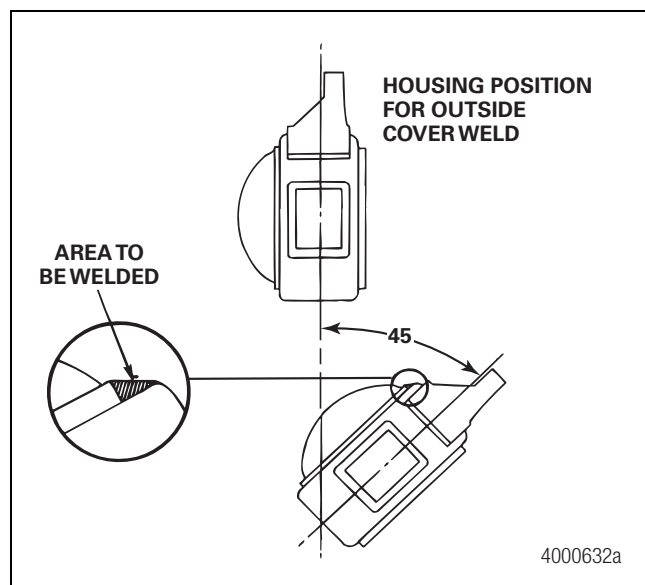

Figure 3.11
1. Position the housing for a flat weld by tilting it 45 degrees forward. Figure 3.11.